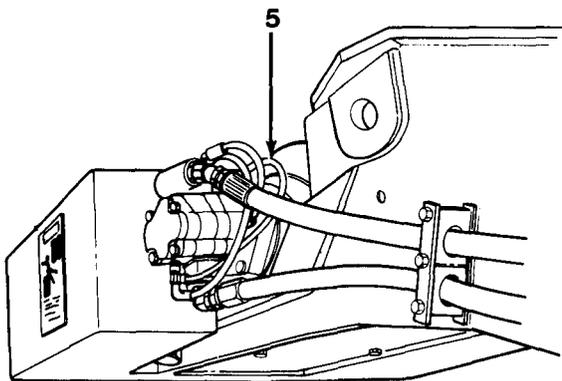

Figure 16-2
2. Disconnect brake release hose (5, Figure 16-2) attached to winch motor, lower port and cap tee before checking pressure. Vent hose to atmosphere.